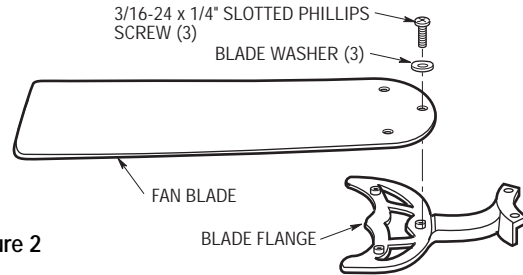

Figure 2
6. Mount blade flanges to fan blades using three 3/16-24 x 5/16" slotted Phillips screws and three blade washers (Figure 2).